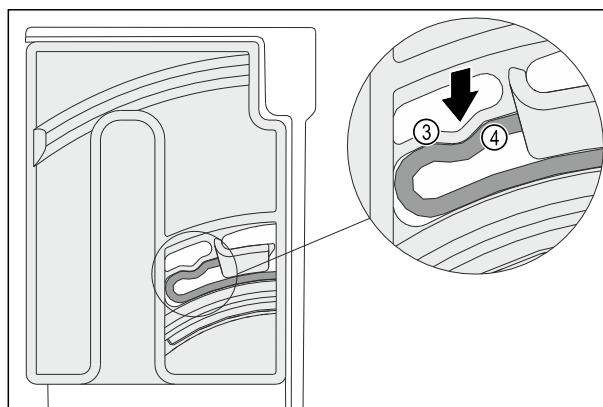

Fig. 148
- The elastic element *Fig. 148 (3)* of the turning unit audibly engages in the round shape of the rib *Fig. 148 (4)*.